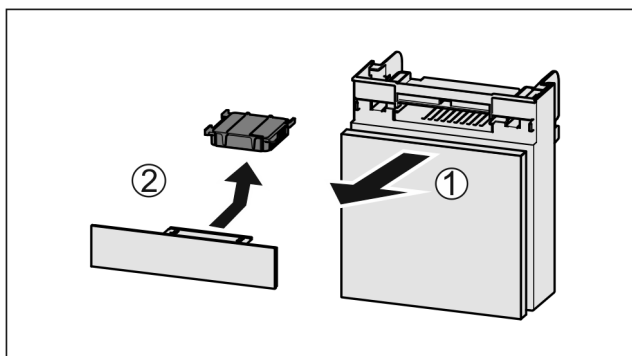

Fig. 88
- ▶ Pull out the compartment Fig. 88 (1).
- ▶ Remove the carbon filter Fig. 88 (2).